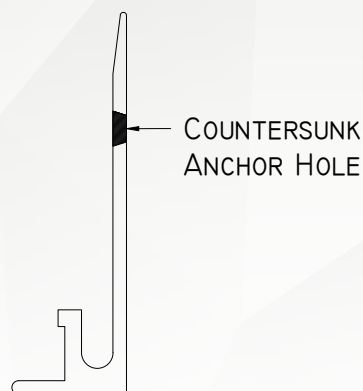

Figure 3.
2. For Floor-to-Wall joints, select a section of the wall member. If the anchor holes have not been predrilled in the wall members at the factory, mark the locations for the anchor holes on the selected wall member. Standard anchor spacing is 30 cm O.C. with an anchor at a nominal 10 cm from each end of the base member. Repeat marking of anchor locations for each section of the base member. If necessary, drill the holes into the wall members at the marked locations (see Figure 3). The wall member anchor holes are to be countersunk.